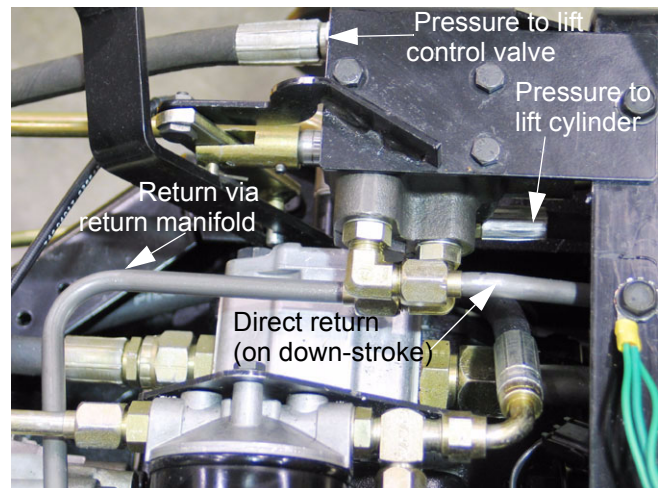

Figure 1.24
- 1.24. The lift control valve directs pressure to the single-acting lift cylinder through the elbow on the bottom of the valve when operator control input directs it to do so. See Figure 1.24.